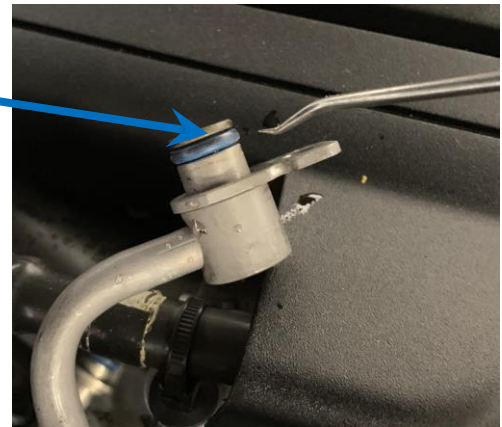

Fig. 16
1. Using a point screw driver or similar, pry old O-rings off from the flange groove. See Fig. 16